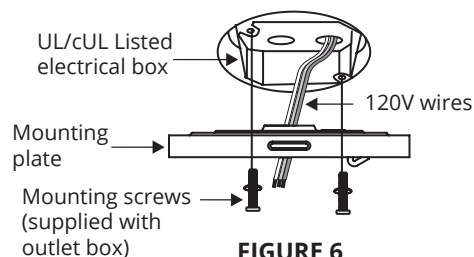

FIGURE 6
3. Pass the 120-volt supply wires through the center hole in the ceiling mounting plate as shown in Fig. 6.
4. Secure the mounting plate to the ceiling outlet box with the screws and washers provided with your outlet box. (Fig. 6)